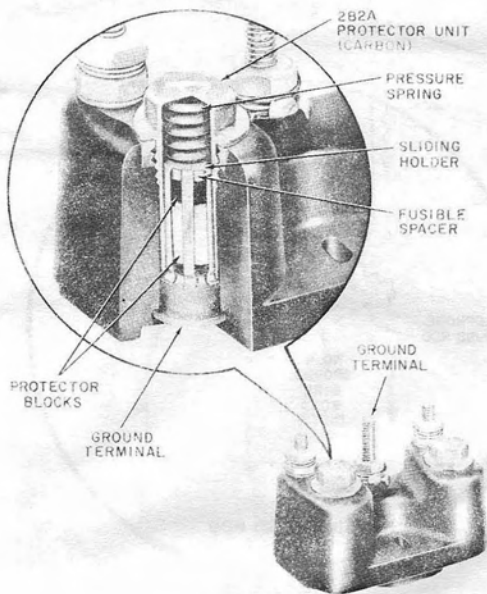

Fig. 2—123A1A Protector
3.03 The 123A1A protector (Fig. 2) provides protection for one pair of wires.